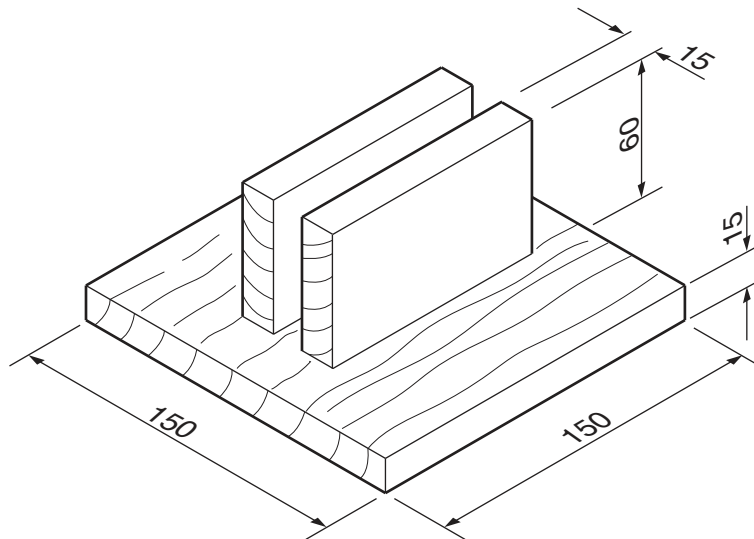

Fig. 13
- (a) Fig. 13 shows details of the base and supports.